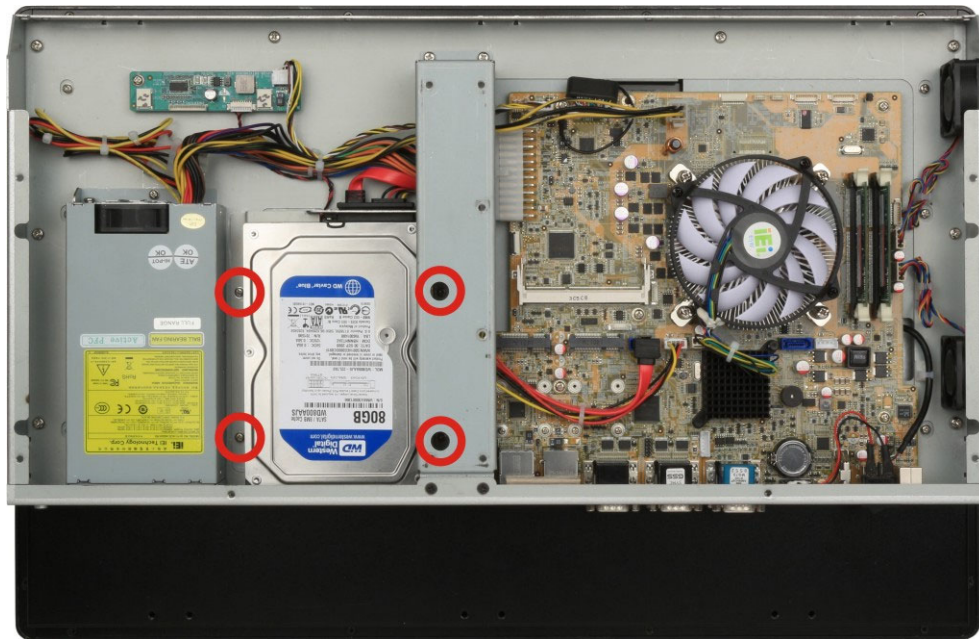

Figure 3-11: Replacing the PPC-F22A/F24A-H81 HDD Bracket
Step 5: Reinstall the HDD bracket into the PPC-FxxA-H81 and fasten the four hard drive bracket screws (**Figure 3-11**).